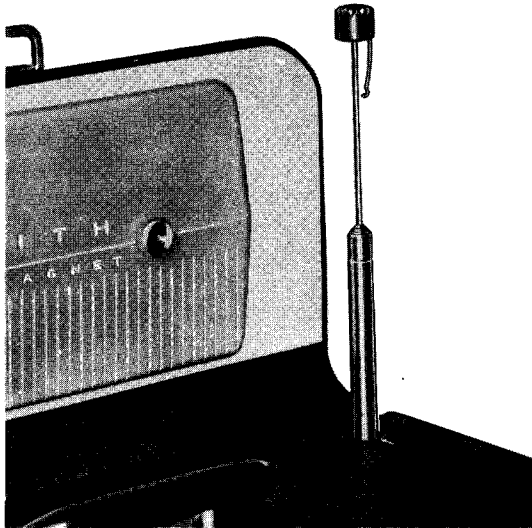

Figure 12.—Waverod Must Be Extended for Shortwave Reception.
- B. Turn Waverod button and extend the Waverod to its full length. (See Figure 12.)